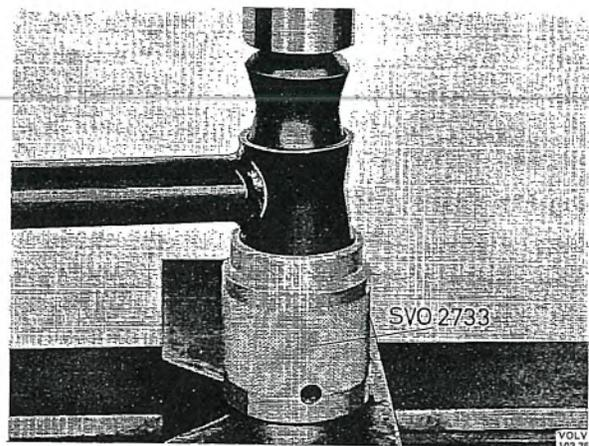

Fig. 7-10. Fitting support stay bush
5. When installing, turn the bush so that the markings on the bush are at right angles to the longitudinal direction of the support stay, as shown by the arrows in Fig. 7-9. The bush can suitably be pressed in with a press drift directly on the bush and with 2733 as a counterhold (see Fig. 7-10).